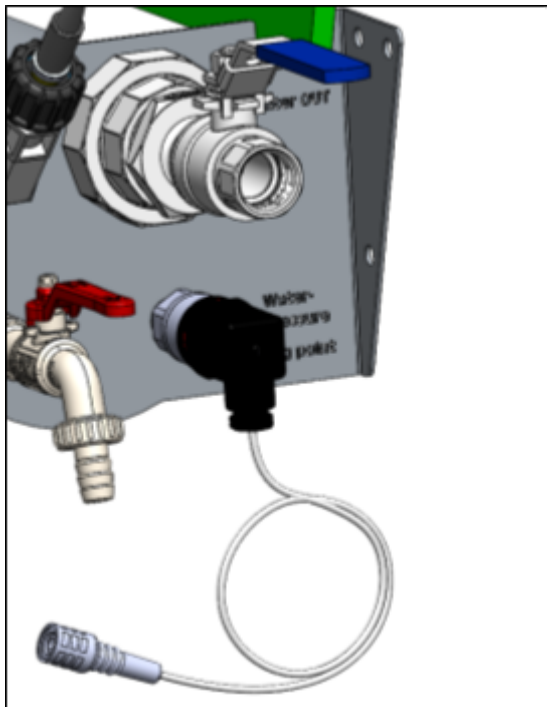

Figure 50.
- 3 . Pressure sensor (Figure 50)